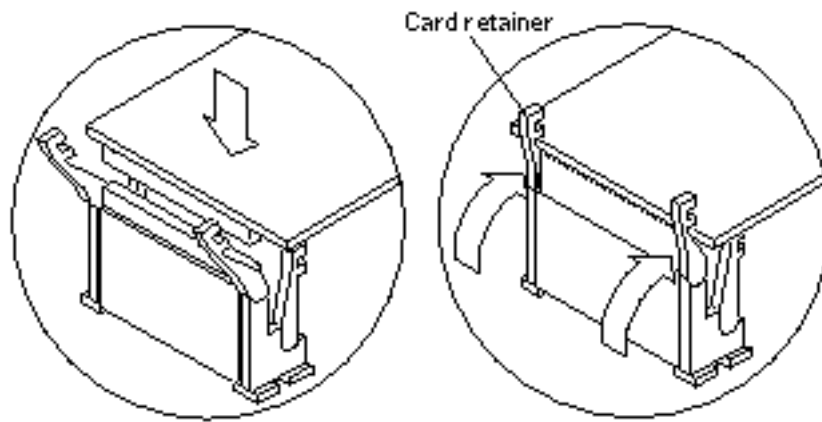
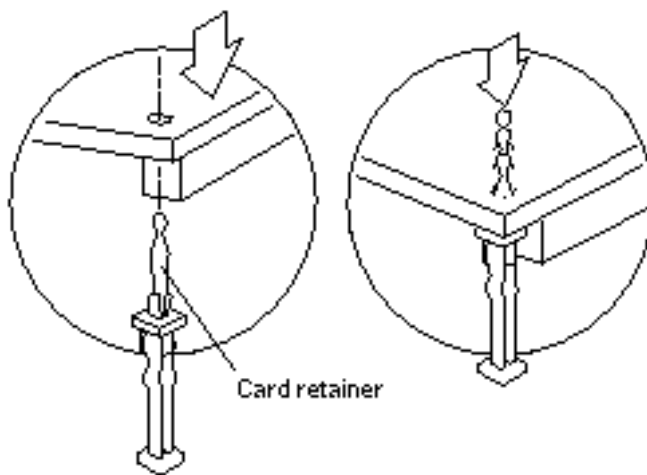

Figure 2-16 Lock in the SBus Card Retainers, SBus Slots 0 or 1
Figure 2-17 Lock in the SBus Card Retainer, SBus Slot 2
Do not force the card, or you may damage the pins on the card. If the SBus card is located in SBus slot 0 or 1, see Figure 2-16. If the SBus card is located in SBus slot 2, see Figure 2-17.
- If the SBus card is located in SBus slot 0 or 1, push the rear card retainers forward over the edge of the SBus card. See Figure 2-16.
See Figure 2-17. There is only one card retainer for the SBus slot 2.